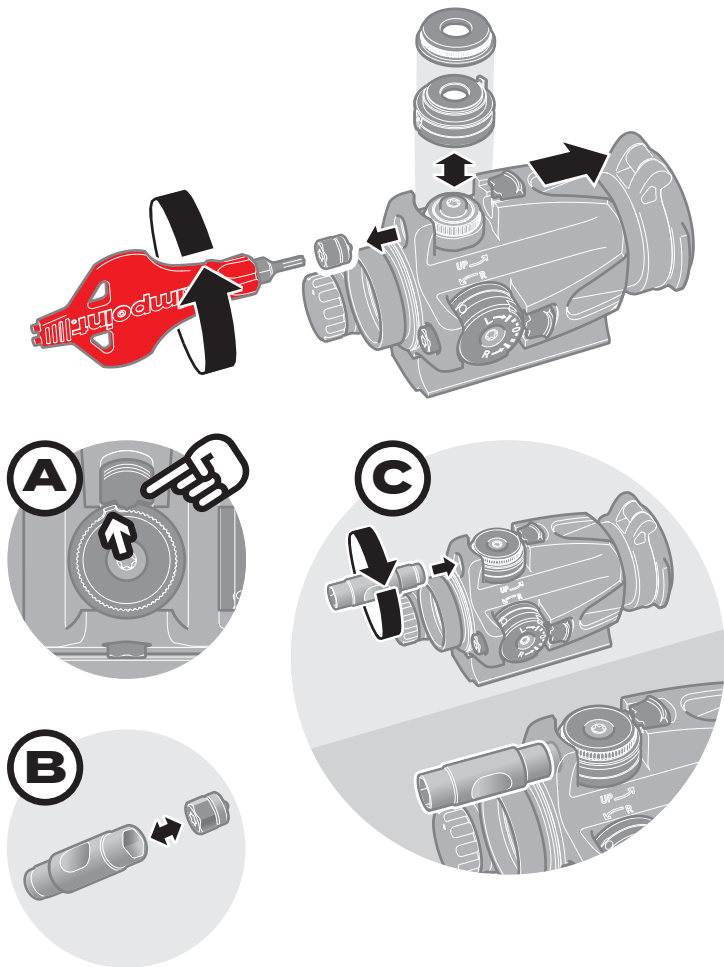

Fig. 6 Preparations
- c Perform zeroing in accordance with instructions in 2.5. When zeroing, ensure that the custom turret and custom turret ring is set to its starting position ("**A**" / Fig. 6).
- d Loosen and remove the spring lock with the T10 Aimpoint tool. Alternatively, use the hex key socket on the drill tool guide to loosen the spring lock ("**B**" / Fig. 6)
- e Install the drill guide to the sight as shown in "**C**" / Fig. 6. The drill tool guide ensures that the drill does not damage the turret when creating a mark.
h Reinstall the spring lock to the sight and tighten with the T10 Aimpoint tool or alternatively use the hex key socket on the drill tool guide ("B" / Fig. 6).